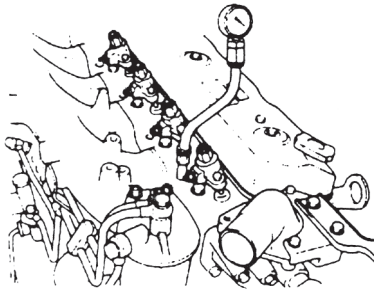

Fig. 1.18
1.5.9 Measurement of the compression pressure (See Fig.1.18)